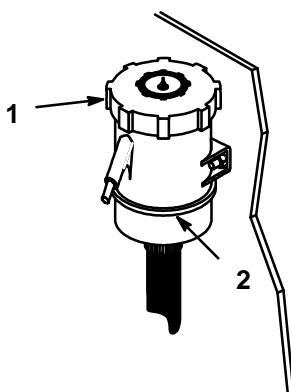

Figure 31
3. Clean around the fluid reservoir (Fig. 31) so level is clearly visible and so dirt cannot fall into the reservoir if fluid is added.
4. When transaxle is cold add oil to “Full Cold” line on reservoir (Fig. 31).